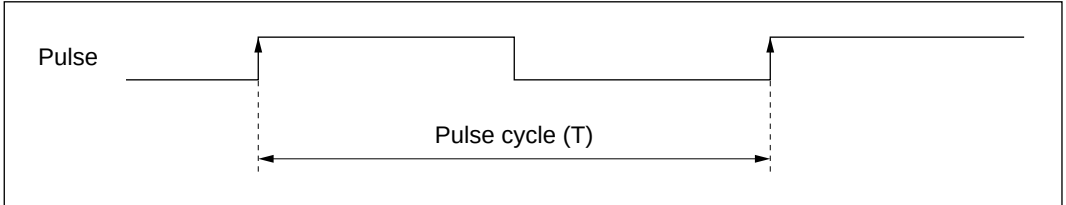

Figure 1 Pulse Cycle Measurement
1. This sample task measures the time from the rise of a pulse signal to the next rise (the pulse cycle) as shown in figure 1, and stores the result in RAM.